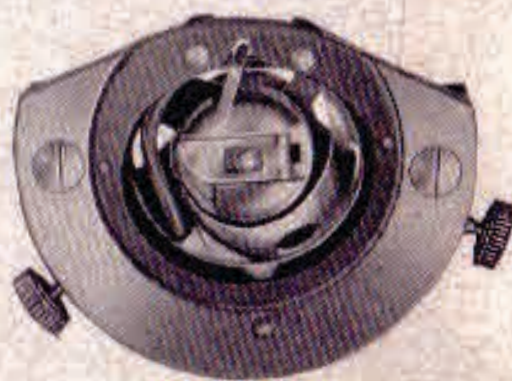

Fig. 54
(4) **The Shuttle Race** (Fig. 54) and 55), after lifting the needle bar to its highest point, removing the belt from the band wheel, tilting the